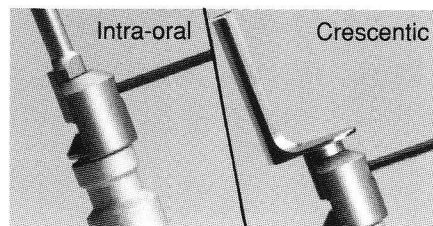

Figure 14
5. Tighten set screw firmly with adaptor wrench (P/N 2296-3-31). See Figure 14.